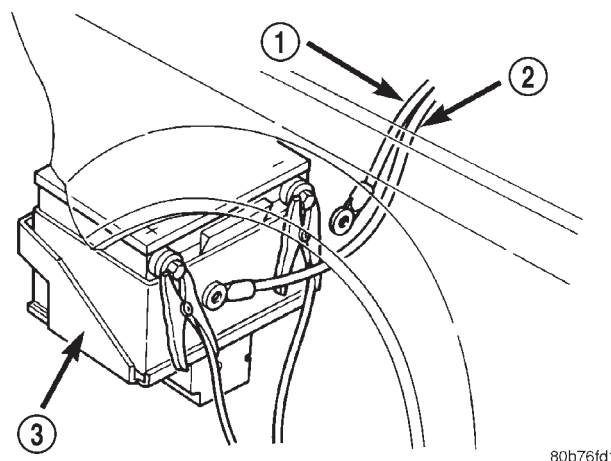

Fig. 9 Volt-Ammeter Load Tester Connections
(1) Remove both battery cables, negative cable first. Connect a Volt/Ammeter/Load tester (Fig. 8) to the battery posts (Fig. 9).
(2) Allow the battery to stabilize for 2 minutes, and then verify the open circuit voltage. Refer to Battery Open Circuit Voltage table.
(3) This voltage reading will approximate the state of charge of the battery. It will not reveal battery cranking capacity.